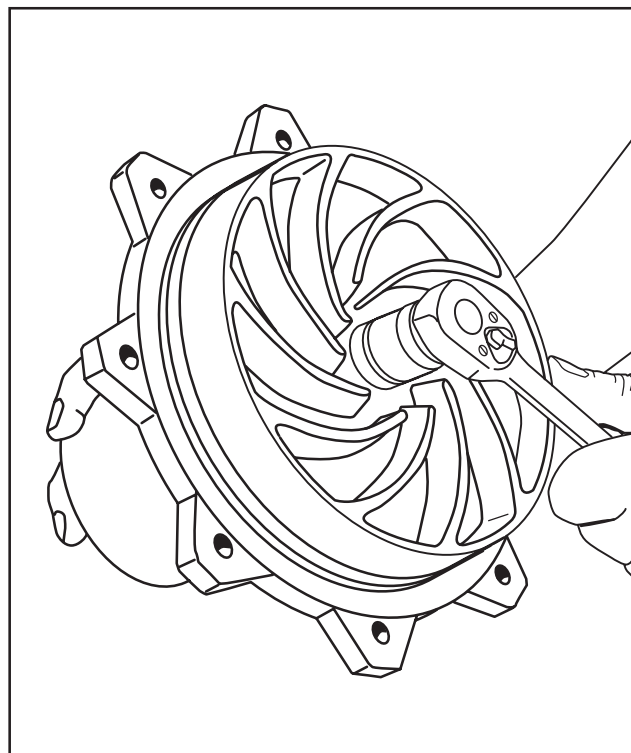

Fig. 18
5. Hold rotor and unscrew impeller locking nut. Turn counter-clockwise as thread is right hand. Fig. 18.